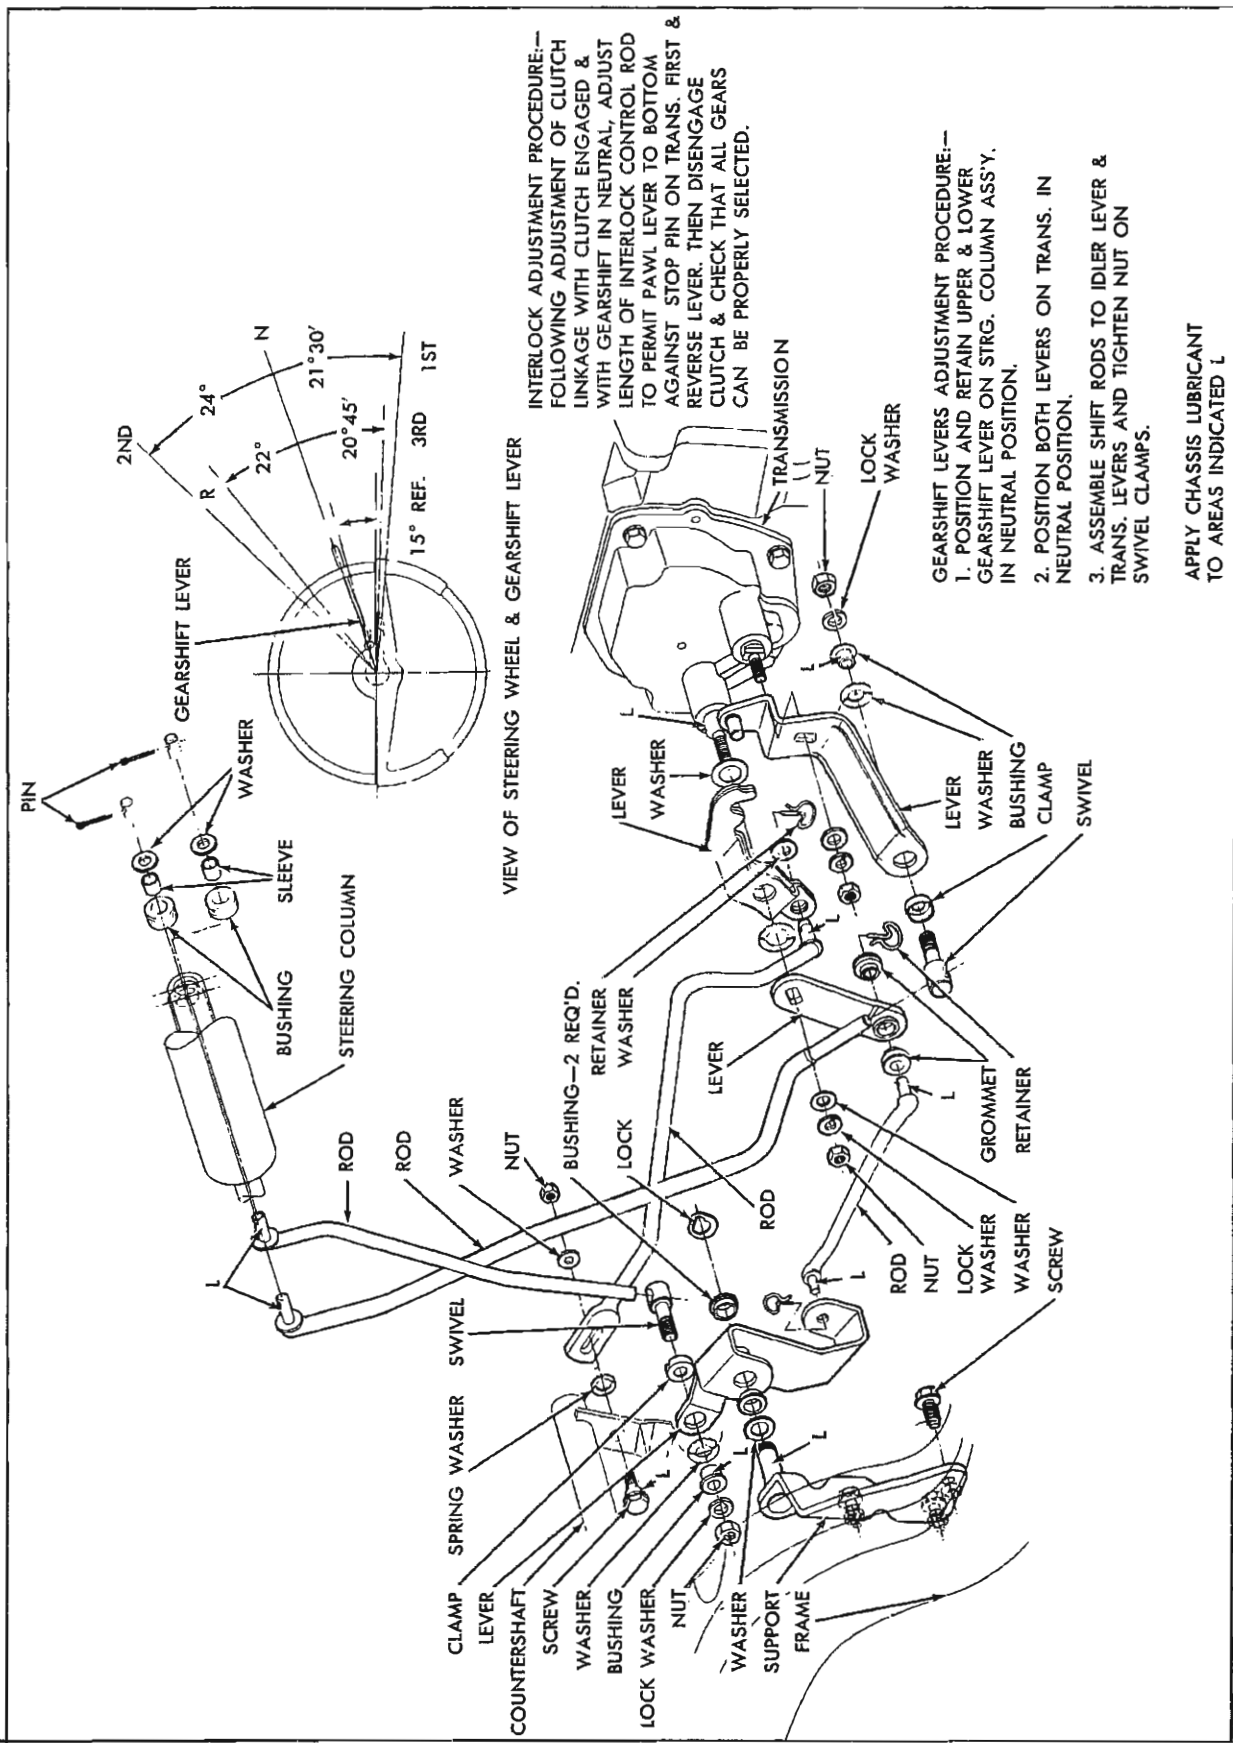

Fig. 7-8 Gearshift Controls (Column) - 6 Cyl.
Gearshifting is manual through a concentric steering column gearshift mechanism (Figs. 7-8 & 7-9) which activates two rods connected to the shifter
GEARSHIFT LINKAGE ADJUSTMENT (Column) (Figs. 7-8 & 7-9)
10. Install first and reverse shift lever (Figs. 7-8, 7-9, 7-10).